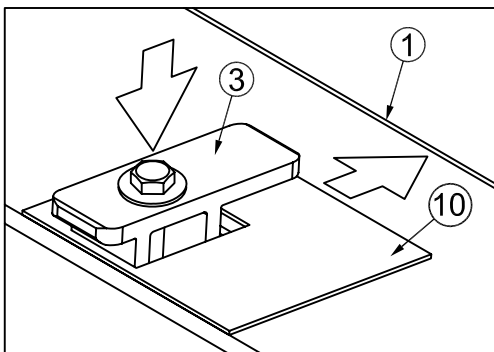

Fig. 11
12. Pull hole cover (#9) toward outside of toolbox (#1) while lowering receiver (#3). (See Fig. 11)